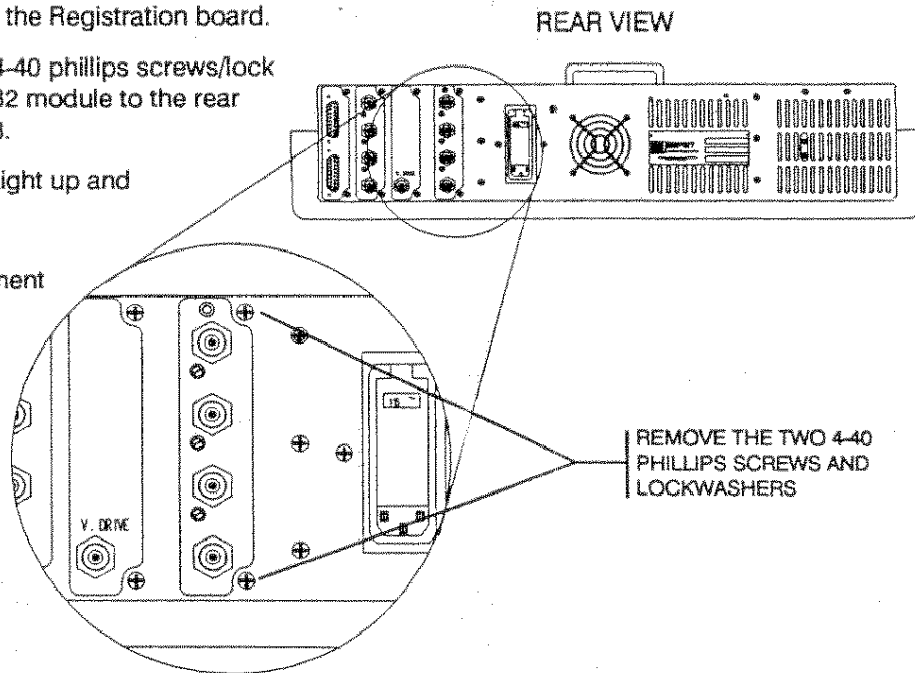

FIGURE 3-13. ANALOG RGB2 MODULE REPLACEMENT.
- STEP 4. Remove the two 4-40 phillips screws/lock washers securing the RGB2 module to the rear panel. Refer to Figure 3-13.